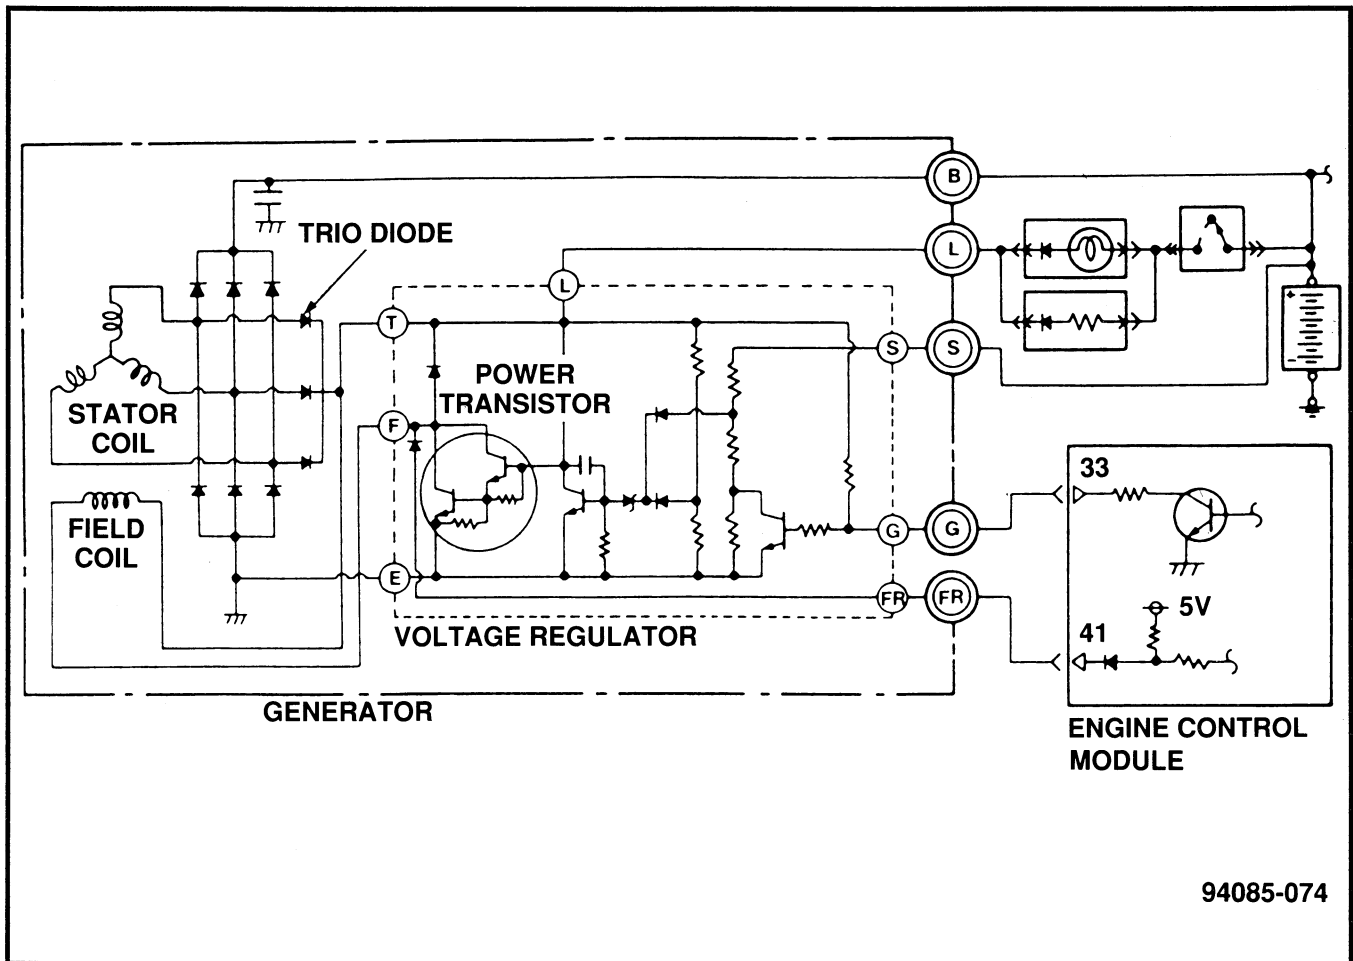

Figure 72 Generator Circuit
This circuit connects the G terminal of the generator to ECM pin 33 (WT) (fig. 72). The ECM can regulate the charging system voltage between 12.3 and 14.4 volts. The purpose of this circuit is to prevent a sharp drop in idle speed due to a sudden high electrical load.